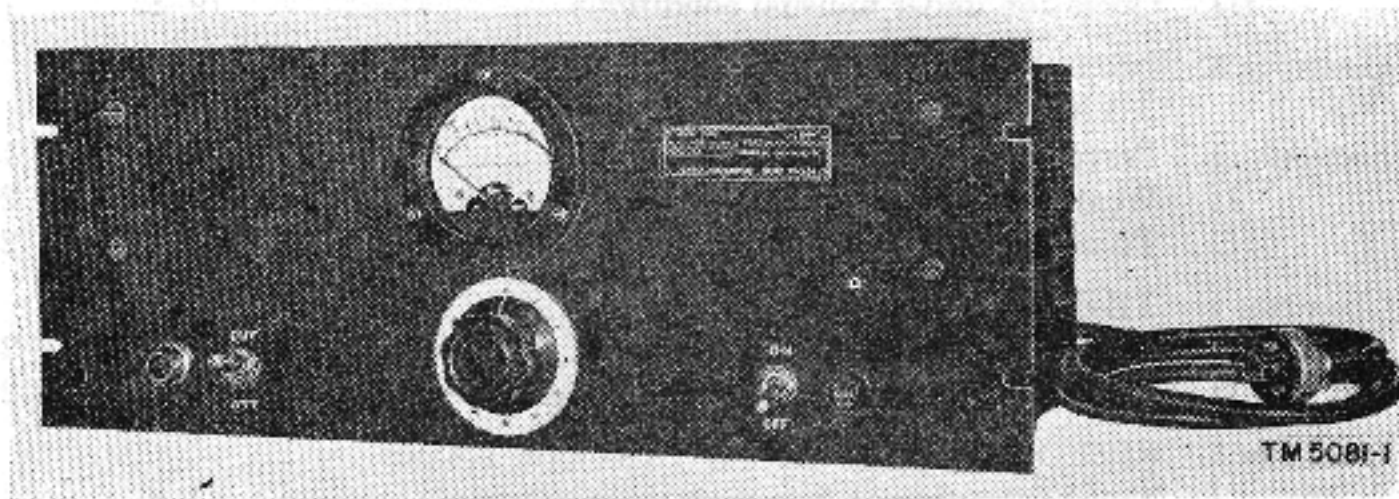

Figure 1. Audio Frequency Amplifier AM-864/U.
This technical manual is published for the information and guidance of all concerned. It contains instructions for the installation, operation, maintenance, and repair of Audio Frequency Amplifier AM-864/U (fig. 1).
a. Audio Frequency Amplifier AM-864/U (fig. 1) is a self-contained unit with its various components mounted directly on a steel chassis. The chassis in turn is fastened to the front panel. A dust cover and bottom plate are used to inclose the unit completely.